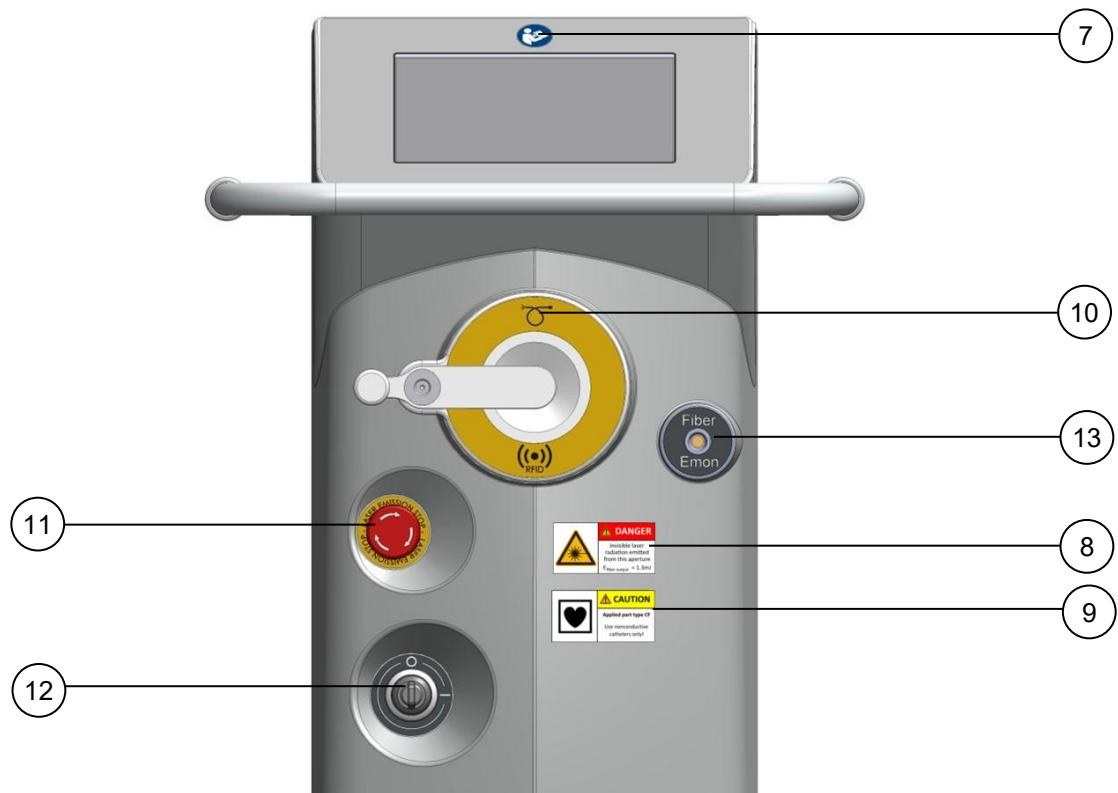

Fig. 2-2: Frontside view
7.	<p>Follow instructions for use.</p> <p>The label is located on the front side of the laser above the touch panel (see Fig. 2-2).</p>
8.	<p>The laser warning identification sign warns about the emission of laser radiation at this position.</p> <p>The label is located on the front side of the laser close to the laser beam aperture (see Fig. 2-2).</p>
9.	<p>Defibrillation-proof type CF applied part</p> <p>Only fibers of type CF are allowed to be attached. Only nonconductive catheters may be used.</p> <p>The label can be found under the corresponding connection on the front panel (see Fig. 2-2).</p>
10.	<p>Connection of the fiber.</p> <p>The label can be found above the corresponding connection on the front panel (see Fig. 2-2).</p> <p> Symbol for radio-frequency identification.</p> <p> Optical fibre applicator</p>
11.	<p>Identification of the laser emission stop.</p> <p>The label is located on the front side of the laser (see Fig. 2-2).</p>
12.	<p>Position display for the key switch.</p> <p>O = "OFF"</p> <p>I = "ON"</p> <p>The label is located on the front side of the laser (see Fig. 2-2).</p>
13.	<p>Energy monitor for the fiber.</p> <p>The label is located on the front side of the laser (see Fig. 2-2).</p>